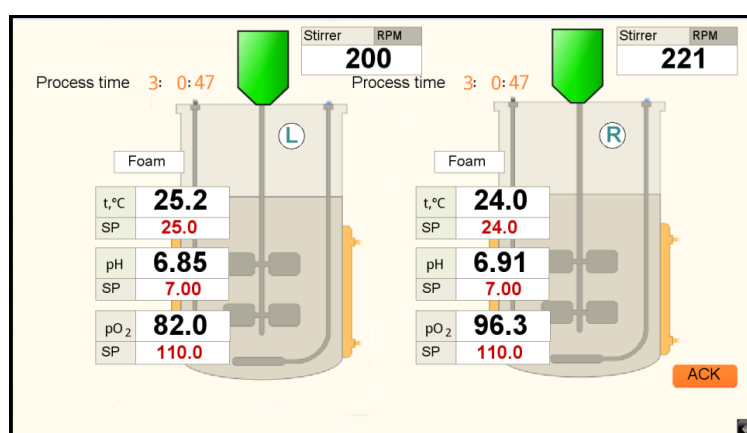
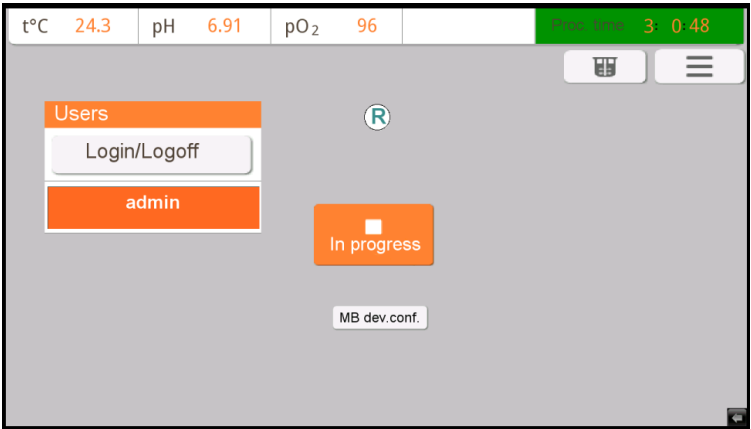

Figure 0.13. 1st level REACTOR window
Figure 0.14. ADMINISTRATION window
- 2) After the system has fully loaded the 1st level **REACTOR** window will appear, see Figure 0.13. More detailed information about the functionality of this window is given in Section 0: "5.2 REACTOR WINDOW";
- 3) By clicking on either the **LEFT** or **RIGHT** bioreactor picture the user can gain access to the 2nd level **REACTOR** window and respective setting for either the left or right bioreactor. Open the main control menu by clicking on the **MENU** button (the symbol with 3 short parallel lines, it is highlighted in Figure 0.13) inside the 2nd level **REACTOR** window. Next – press **ADMINISTRATION**, thus opening the **ADMINISTRATION** window, see Figure 0.14;
By using the access path **MENU** → **REACTOR** open the 1st level **REACTOR** window (see Figure 0.13) for viewing both bioreactor process parameters. Alternatively, the **REACTOR** “1st level” window can be accessed by pressing the button with a schematic picture of reactor, which is placed besides the **MENU** button.